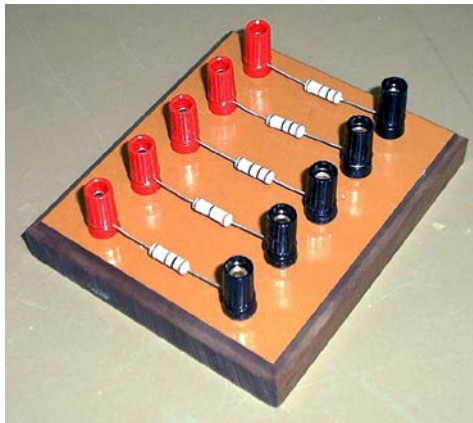

Figure 11-7. Board with resistors.
20. Measure the resistance of each of two mounted resistors with a nominal value of $100\ \Omega$, as shown in Figure 11-7.